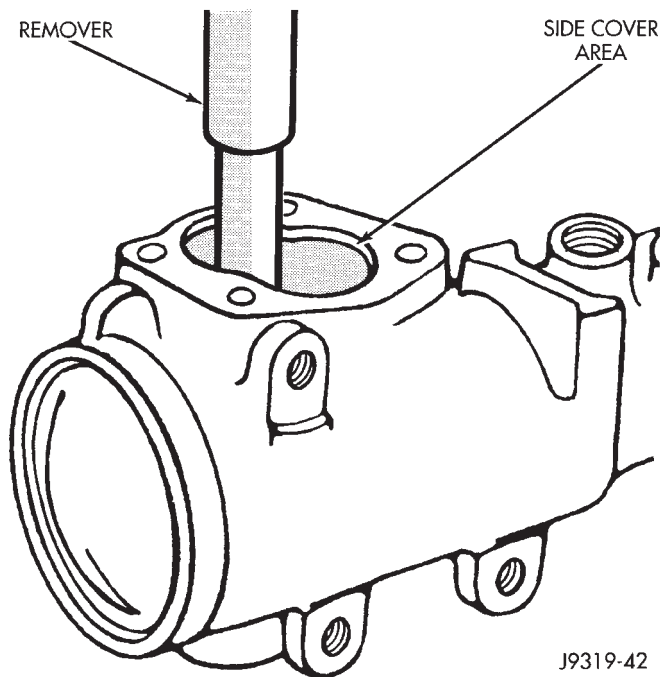

Fig. 36 Needle Bearing Removal
- (4) Remove backup washer and double lip seal with screwdriver.
- (5) Remove backup washer and single lip seal with screwdriver.
- (6) Inspect the housing for burrs and remove if necessary.
- (7) Remove needle bearing from side cover area of housing (Fig. 36).